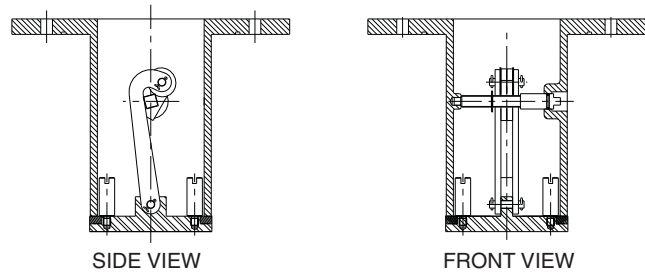

Fig. 32 — Suction Valve Detail
4. If factory-installed suction service valves are installed, open the suction service valves in each circuit. Service valve is located below the compressor in the cooler suction connection flange. To operate the valve, first remove the cap. Use a back-up wrench on the packing gland to prevent loosening while removing cap. Loosen the jam nut. Rotating the valve handle clockwise will close valve and counterclockwise will open valve. When closing the valve, the linkage arm must swing past center of the actuator shaft cam to seat and prevent accidental opening of the valve. Tighten the jam nut. See Fig. 32 and 33.